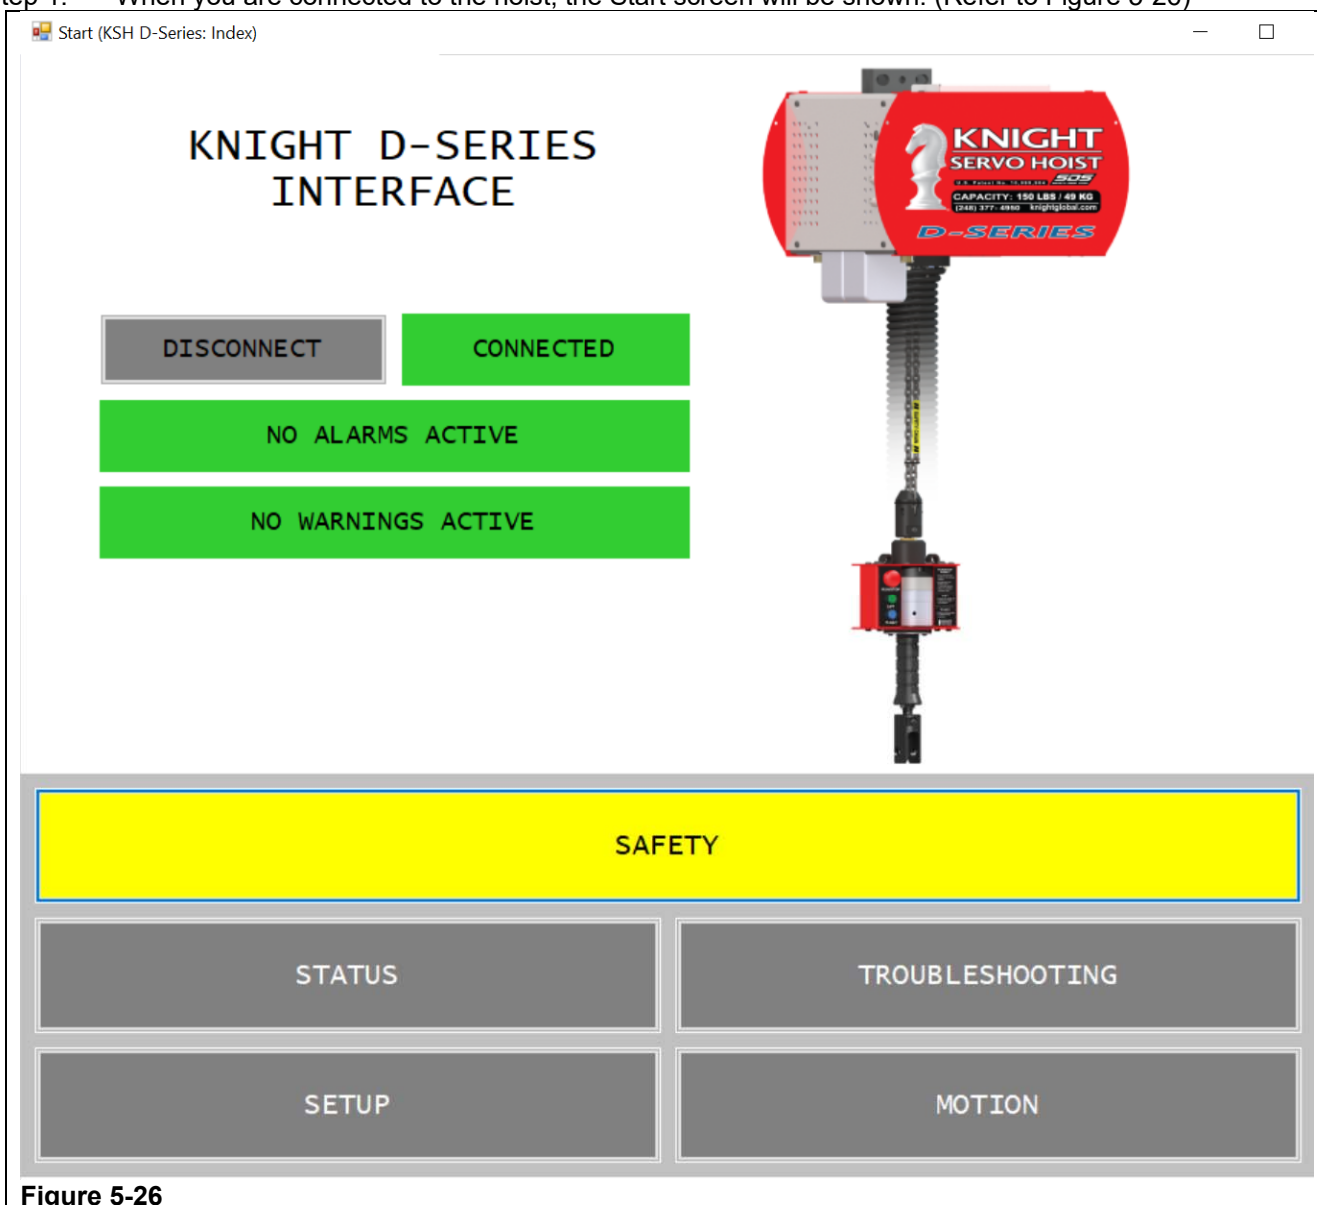

Figure 5-26
Step 1. When you are connected to the hoist, the Start screen will be shown: (Refer to Figure 5-26)
Start screen: (Refer to Figure 5-26)